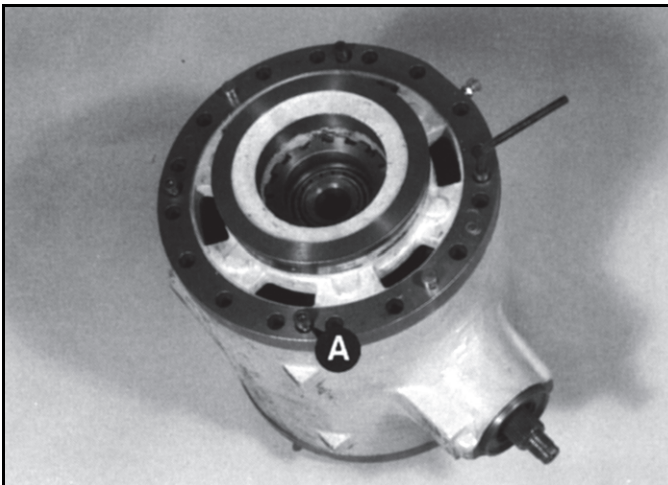

FIGURE 8-40
10. Apply Loctite® 275 to the drive head mating face. Install the brake piston housing. Ensure that the match marks made during disassembly are aligned. Install capscrews **A** Figure 8-40 (see Note) and tighten to a torque of 56 Nm (42 lb-ft). Torque applies to both piston housings.